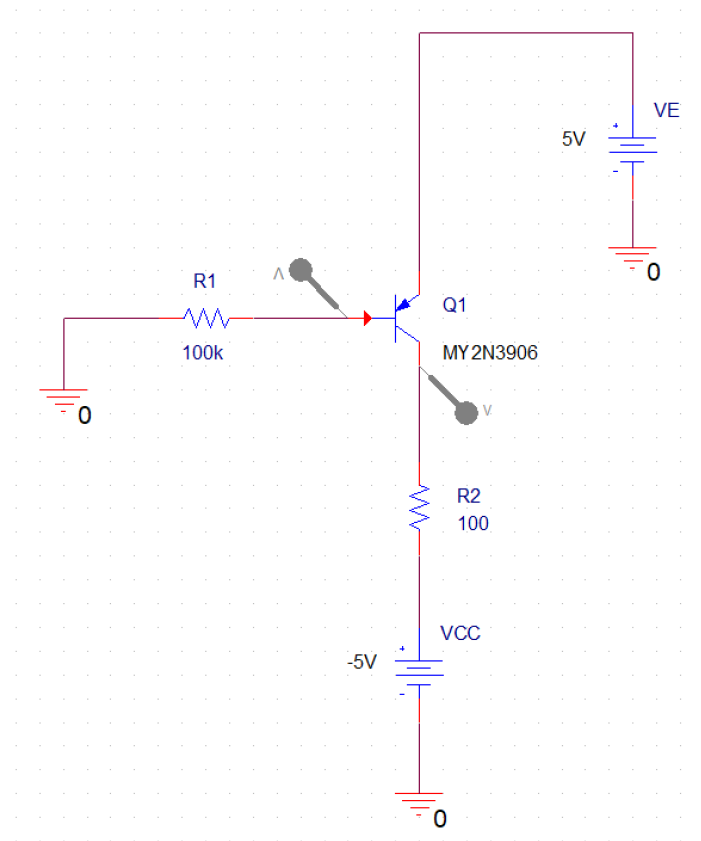

Fig. 3 The schematic diagram for the DC characterization of a PNP-BJT 2N3906
- 2.1 In Avenue to Learn, *Lab 1: Device Characterization and Biasing Circuits*, use the provided information to prepare the circuit diagram shown in Fig. 3 to characterize a PNP-BJT 2N3906.